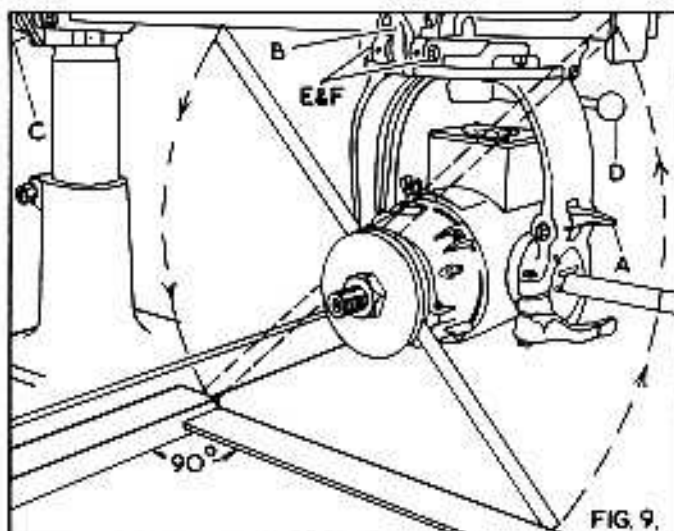
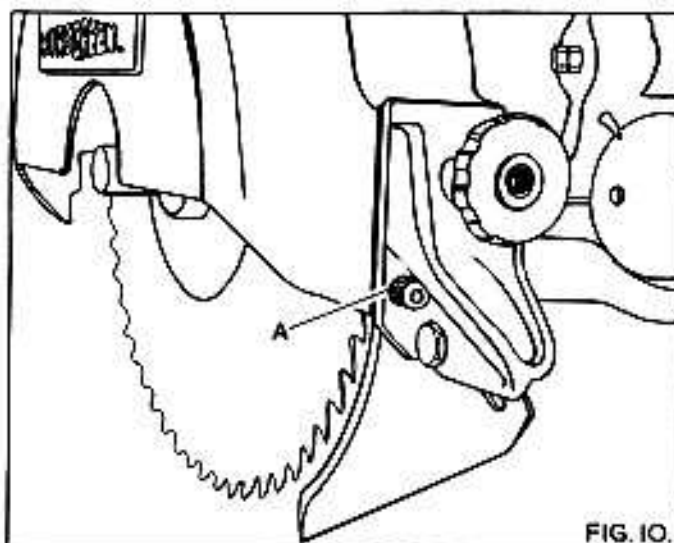

FIG. 9.
FIG. 10.
To check this alignment place a steel rule or some other similar straight edge between the saw flanges as shown in Fig. 9 and a steel square against the fence. Rotate the steel rule from front to rear. If adjustment is necessary loosen stirrup locking handle "D", and disengage the stirrup locating latch "B", set correctly, then relock in position with lever "C". Adjust the acrotight nuts "E" and hexagon locknuts "F" until the latch "B" locates accurately in the slot in the stirrup.
2. Ensure the motor locating latch "A" in Fig. 9, the stirrup locating latch "B" and the carriage locking screw "C" in Fig. 10 is securely locked.
4. Lift arm locating latch "C" in Fig. 9 and swing arm to extreme ends of the table checking that clearance between rod and table remains constant.
The riving knife should be central between the set of the saw. Should the riving knife be incorrectly positioned loosen the two socket head cap screws "A" in Fig. 10. Place a steel rule or some other straight edge along the riving knife and set central to saw. With the riving knife in this position re-tighten the two socket head cap screws "A".